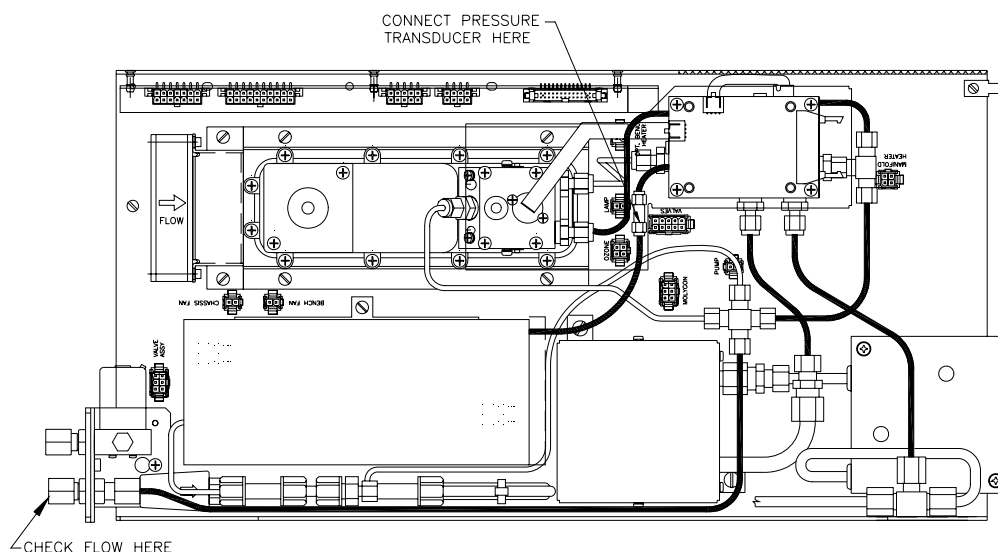

Figure 17. Pressure Calibration
5. Disconnect the Teflon line from the O_3 generator to the measurement cell and connect a calibrated pressure transducer to this port on the measurement cell (as shown in Figure 17).